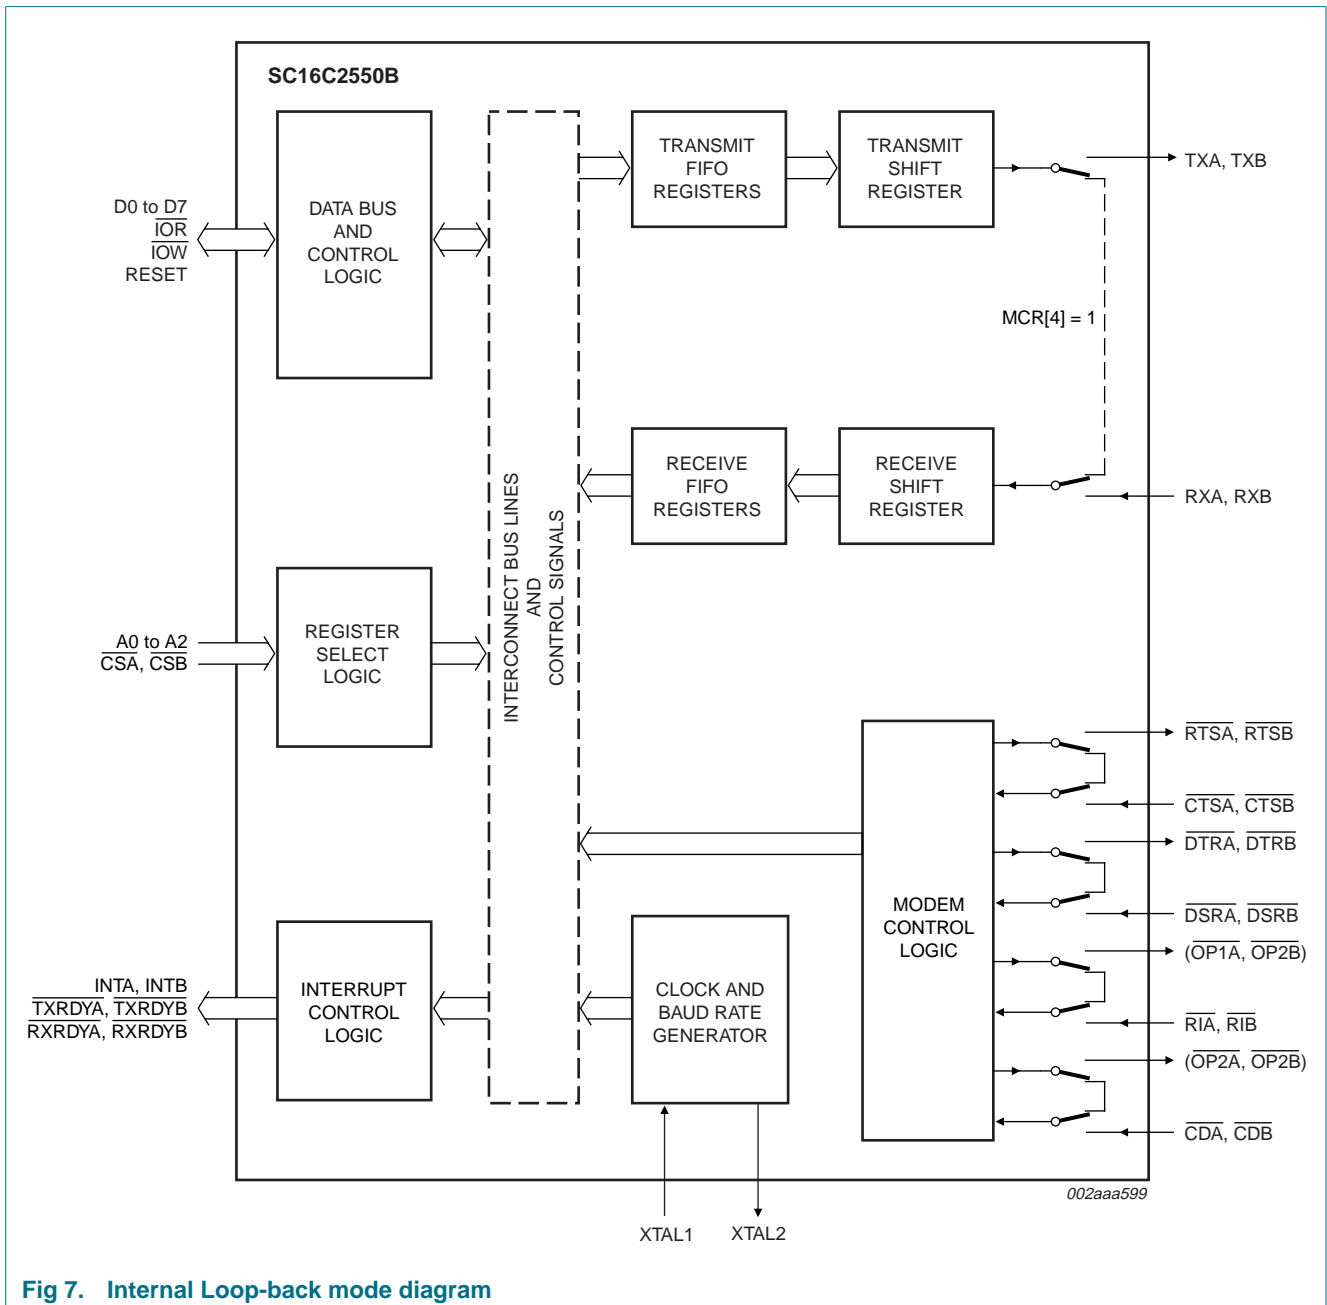

Fig 7. Internal Loop-back mode diagram
The internal loop-back capability allows on-board diagnostics. In the Loop-back mode, the normal modem interface pins are disconnected and reconfigured for loop-back internally (see Figure 7). MCR[0:3] register bits are used for controlling loop-back diagnostic testing. In the Loop-back mode, the transmitter output (TX) and the receiver input (RX) are disconnected from their associated interface pins and instead are connected together internally. The  $\overline{\text{CTS}}$ ,  $\overline{\text{DSR}}$ ,  $\overline{\text{CD}}$  and  $\overline{\text{RI}}$  are disconnected from their normal modem control inputs pins and instead are connected internally to  $\overline{\text{RTS}}$ ,  $\overline{\text{DTR}}$ , MCR[3] ( $\overline{\text{OP2}}$ ) and MCR[2] ( $\overline{\text{OP1}}$ ). Loop-back test data is entered into the transmit holding register via the user data bus interface, D0 through D7. The transmit UART serializes the data and passes the serial data to the receive UART via the internal loop-back connection. The receive UART